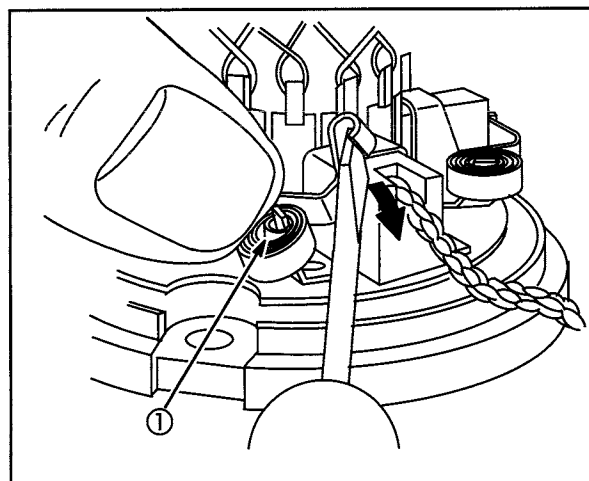

Fig. 21
3. Position coil spring over tab (1), Fig. 21.